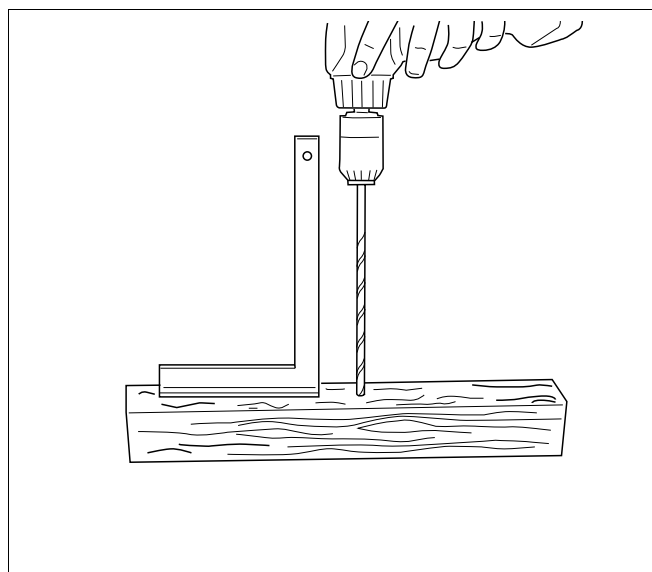

Fig. 4 Create a drilling template
- Take a timber of approx. 0.50 – 1.00 m. Drill a vertical hole right through (Ø 6 mm) the timber (Fig. 4).
- Drill through the corrugated roof (Ø 13 mm) using a metal drill bit (Fig. 4). Do not drill into the timber below.